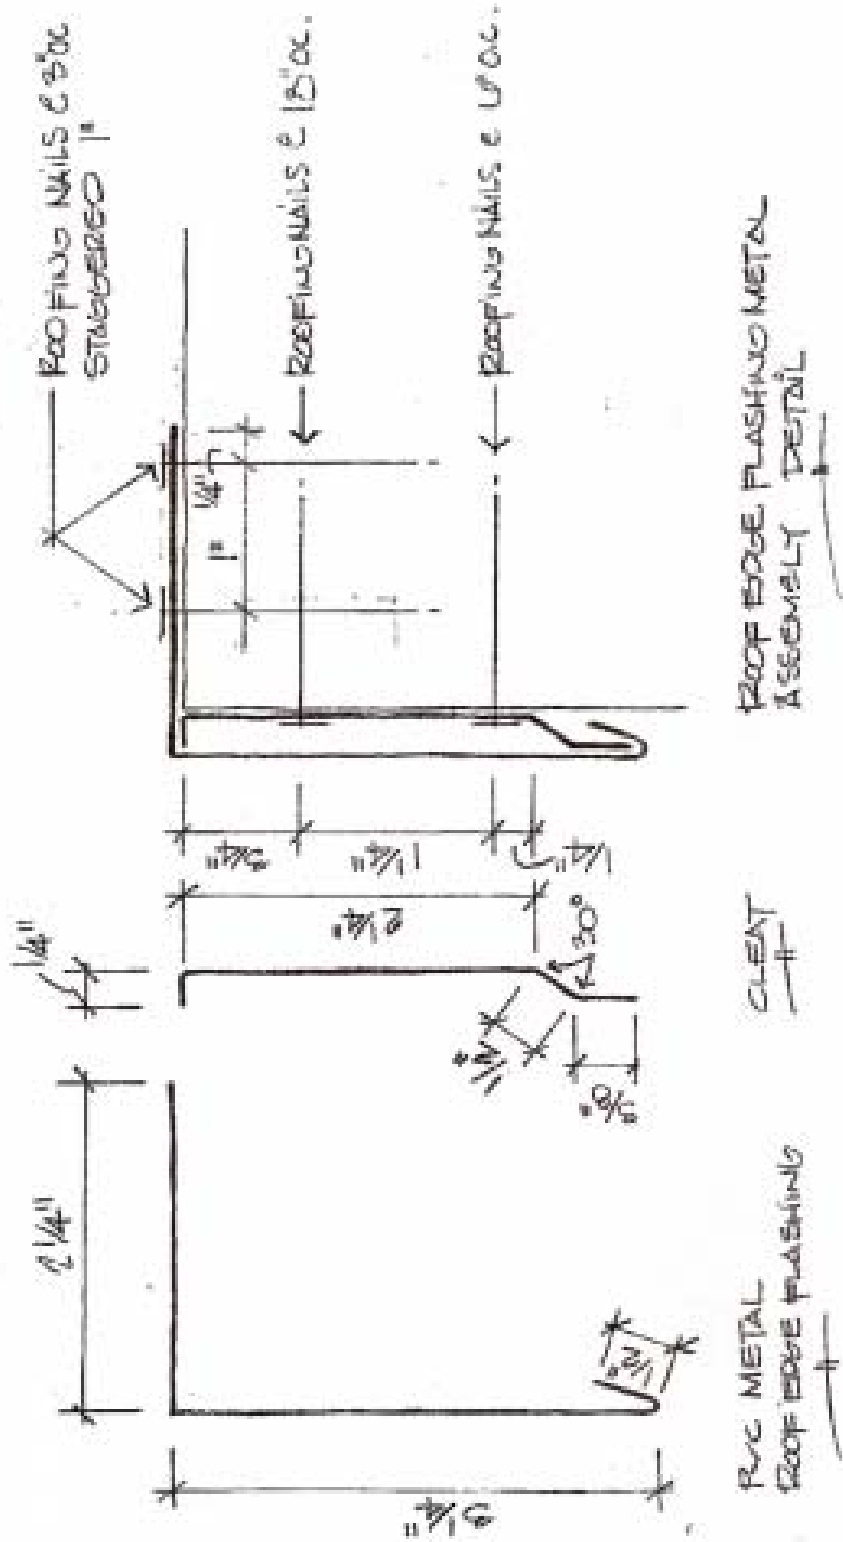

Figure 1: Duradek PVC/Metal Roof Edge Flashing
- a. The Duradek PVC/Metal Roof Edge Flashing system consists of a 2-1/4 inch wide x 3-1/4 inch high roof edge flashing, PVC coated on the exterior wall with 24 gauge (0.023 inch thick) steel base metal. The continuous cleat is 24 gauge steel (0.023 inch thick). The cleat and edge flashing are attached to structural lumber substrate using 11 gauge, 1-1/2 inch long galvanized annular right shank nails with 3/8" diameter head spaced as shown in Figures 1 and 2.
- E. **WIND RESISTANCE:** The roof deck construction over which the fully bonded coating is installed is to be designed to resist the minimum design wind pressures set forth in the applicable code. Refer to Figures 1 and 2 below for edge securement specifications using the Duradek PVC/Metal Roof Edge Flashing System. The cleat and edge flashing are attached to the structural lumber substrate using 11 gauge, 1-1/2 inch long galvanized annular right shank nails with 3/8" diameter head spaced as shown in Figures 1 and 2.